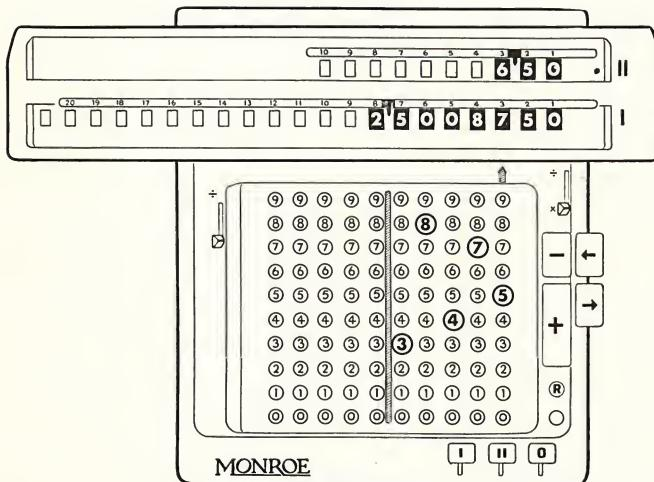

Figure 18
*Step 2*—Starting with the carriage in the "2" position, the equivalent is multiplied by 6.50. The result in the lower dials is 2.5008750, or 2.50, the net price. (Figure 18.)